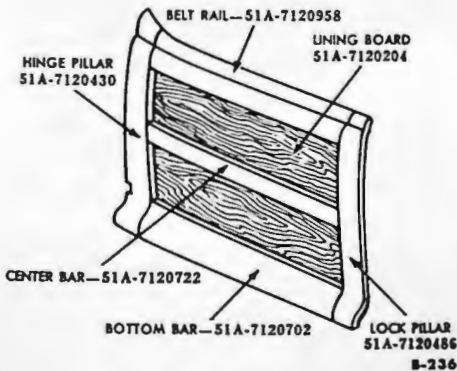

Fig. 1—Door Assembly
(1) **LOCK PILLAR OR HINGE PILLAR REPLACEMENT** (fig. 1). Remove the hardware, glass, and trim necessary to remove the wood assembly from the steel panel. Remove the wood assembly from the steel panel. Saw through the lock pillar or hinge pillar at the belt rail and bottom bar. Remove the screws from the joints and lining board. Remove the lock or hinge pillar from the belt rail, center bar and bottom bar. Install the new lock or hinge pillar, using glue on the joints. Place clamps on the joints until the glue is set. Install the screws in the joints. Assemble the wood assembly to the steel panel. Install the hardware, glass, and trim.
(2) **BELT RAIL OR BOTTOM BAR REPLACEMENT** (fig. 1). Remove the hardware, glass, and trim from the steel panel, and remove the wood assembly from the steel panel. Remove the screws from the joints and the lining boards. Saw through the belt rail or the bottom bar near the hinge pillar and lock pillar. Using a chisel, clean the hinge pillar and lock pillar joints. Install the new belt rail or bottom bar, using glue on the joints. Install clamps on the joints until
(3) **CENTER BAR REPLACEMENT** (fig. 1). Remove the hardware, glass, and trim necessary to remove the wood assembly from the steel panel. Remove the lock or hinge pillar. Using a chisel, loosen the center bar from the lining board, being careful not to damage the lining board. Saw through the center bar near the hinge or lock pillar. Using a chisel, clean the joints. Install a new center bar and lock or hinge pillar, using glue on the joints. Install clamps on the joints until the glue is set. Install the screws in the joints. Assemble the wood assembly to the panel, and install the hardware, glass, and trim.
(4) **LINING BOARD REPLACEMENT** (fig. 1). Remove the hardware, glass, and trim necessary to remove the wood assembly from the steel panel, and remove the wood assembly from the steel panel. Remove the screws from the lining board. Using a chisel, loosen the lining board from the door assembly, and remove the lining board. Clean the rabbet joints, and install the new lining board, using glue on the joints. Install the lining board screws and assemble the wood assembly to the steel assembly. Install the hardware, glass, and trim.